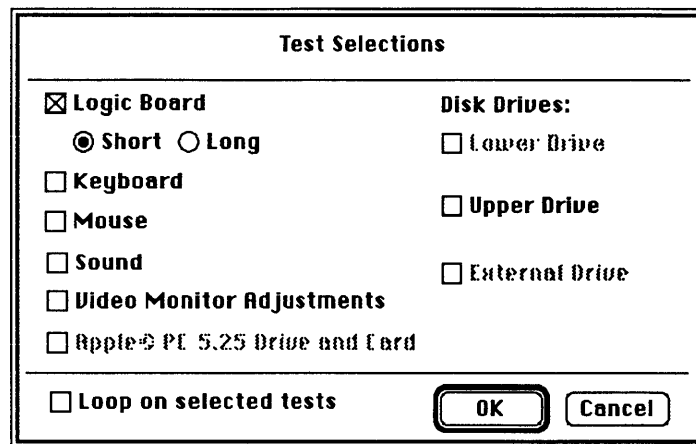
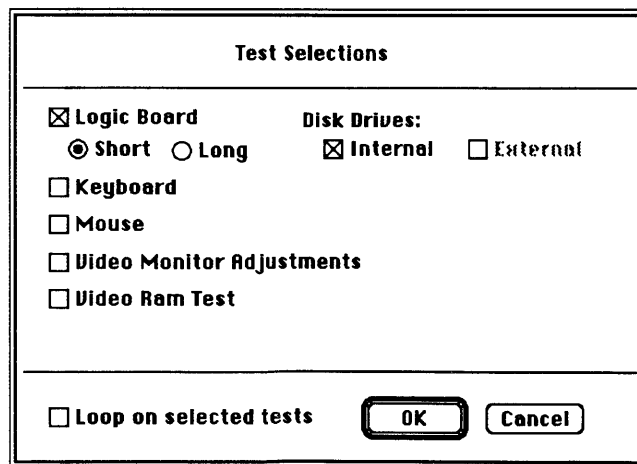

FIGURE 2
FIGURE 3
1. **Test Selections:** The **Test Selections** windows displayed by *MacTest SE* (Figure 2) and *MacTest SE/30* (Figure 3) differ slightly, but the process of selecting tests is the same for both programs.